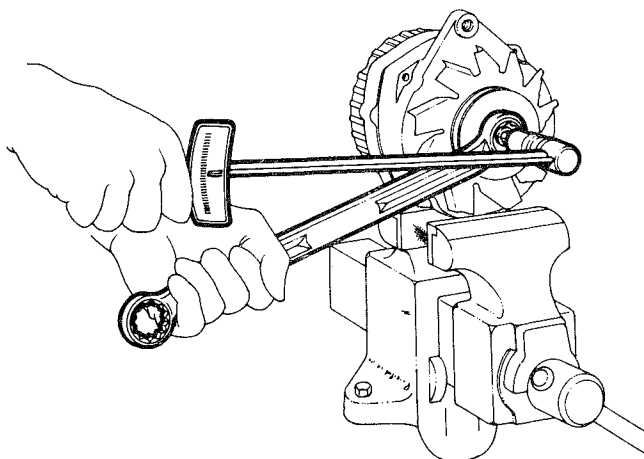

Fig. 1E-16 Tightening Pulley Nut
(4) Install retaining plate and screws.
(5) Position housing, collar, fan, pulley and washer on rotor shaft and install drive pulley nut.
(6) Place rotor in vise. Tighten vise only enough to permit tightening of pulley nut.
(7) Alternate method of tightening pulley nut requires use of Allen wrench to hold rotor from turning while tightening nut with wrench (fig. 1E-16).